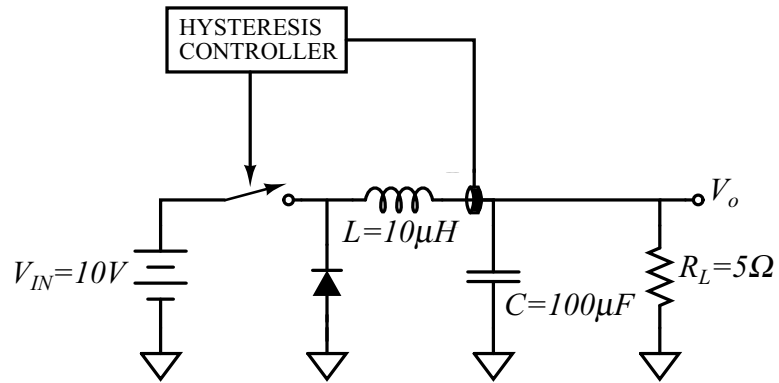
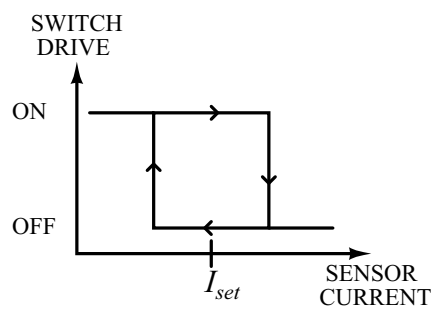

Figure 4.2: Buck Converter with Hysteresis Control of Inductor Current
Figure 4.3: Hysteresis Controller Characteristics
**Problem 2** The buck converter shown in Figure 4.2 utilizes a hysteresis controller to control the average value of the current flowing in the inductor. The characteristics of the hysteresis controller are shown in Figure 4.3.